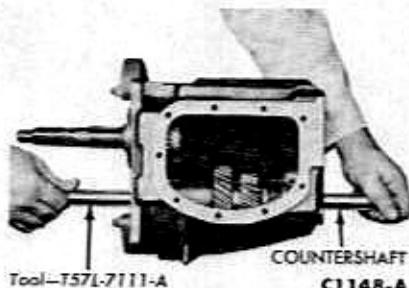
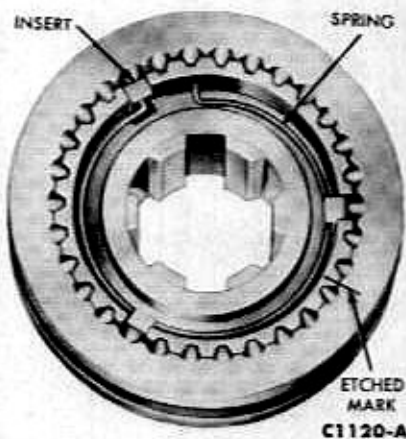

FIG. 8—Countershaft Removal
FIG. 9—Synchronizer Assembly
17. Push the countershaft through the cluster gear with the bearing retainer tool (Fig. 8). Make sure the cluster gear drops to the bottom of the case. Remove the countershaft from the case.
1. Place the pilot tool (Fig. 8) in the cluster gear. Slide the spacer over the bearing retainer tool. Install at each end of the cluster gear a row of needle bearings, a flat washer, a second row of needle bearings, and a second flat washer. Place the thrust washers (front and rear) on the cluster gear, and keep them in place with heavy lubricant (Fig. 9, Part 3-2).
10. Assemble the synchronizer by placing the three inserts in position. Place a spring at each end of the hub, and hook one spring end in an insert (Fig. 9). Align the etched marks on the sleeve and hub splines, and slide the sleeve over the hub with the shifter fork groove toward the rear.